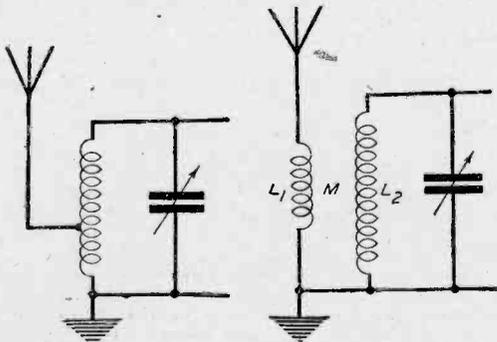

Fig. 2.—Circuit of a tapped-coil aerial coupling. Fig. 5.— Mutual-inductance aerial coupling circuit.
**W**E deal first with tapped-coil aerial coupling (Fig. 2) because this is the simplest method of coupling an aerial-earth system to a tuned circuit and is most convenient for amateur constructors to use because it involves no additional components; one end of the tuning inductor is earthed and the aerial is connected to a tapping point on the coil.
coupling coefficient, Fig. 5 is not so convenient a circuit as Fig. 2 for amateur constructors.